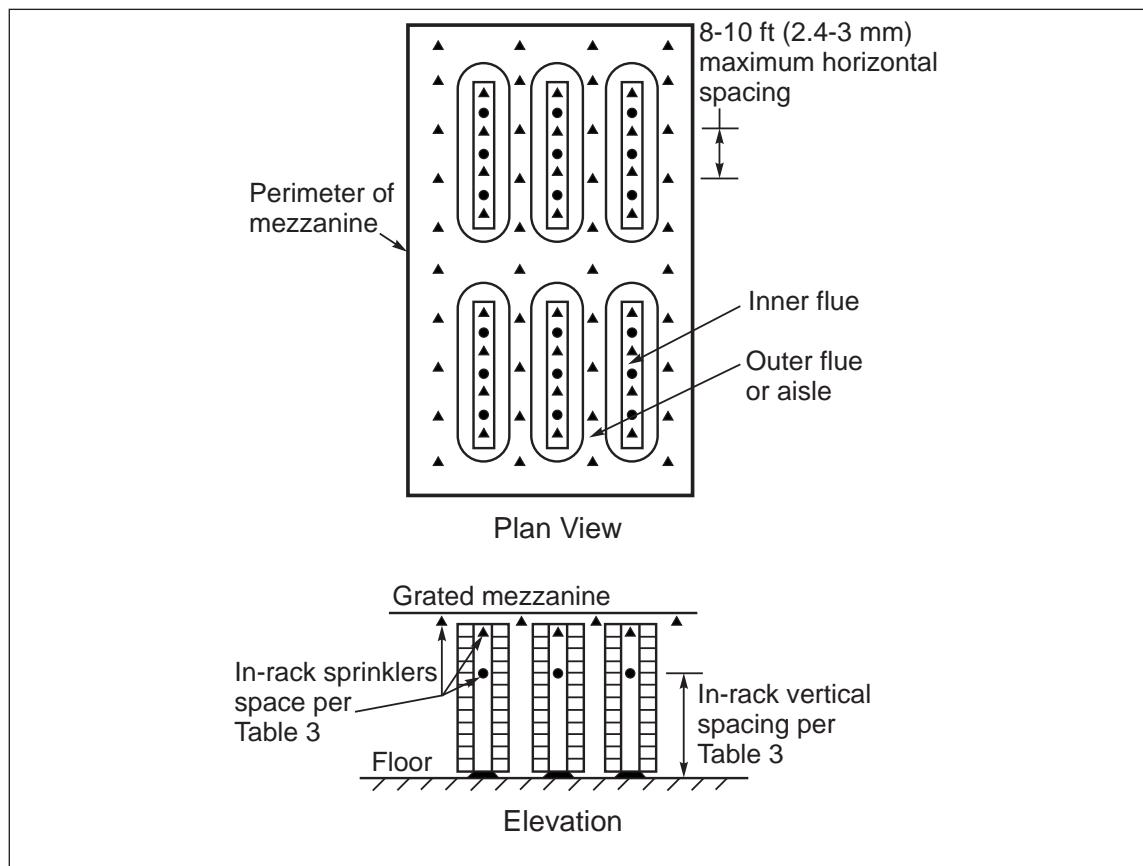

Fig. 1a. Sprinkler location below mezzanine.
| Fig. 1a. Sprinkler location below mezzanine. | 5 |
2.2.3.2.1 Install ceiling sprinklers above the mezzanine in accordance with Table 2, Ceiling Sprinkler Protection for Carousel Rack Storage (see Fig. 1a and Section 2.4.1).